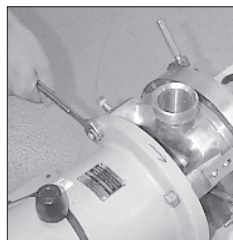
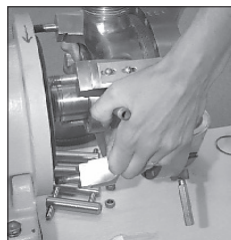

Figure 14
Figure 15
10. Remove the four 1/2-13 hex nuts which secure the body to the bearing case and slide the body forward off the shaft. (See Figure 14 and Figure 15.)